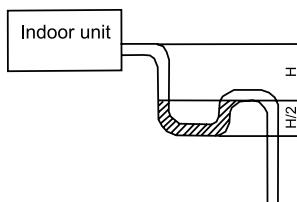

Fig.21
(5). If the air flow of indoor unit is high, this might cause negative pressure and result in return suction of outdoor air. Therefore, U-type water trap shall be designed on the drainage side of each indoor unit.(Fig.21)